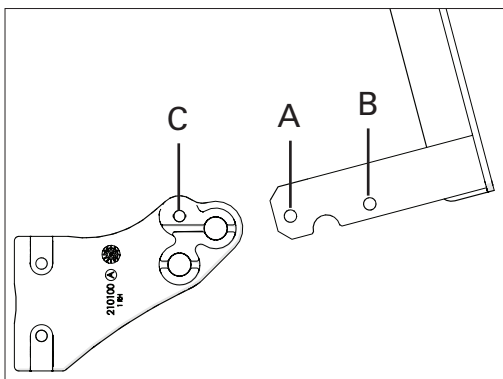

Figure 1
- (1) 1/2" COMBINATION WRENCH OR SOCKET
- Align hole of skid runner (hole marked "A" for 10-inch wheels or "B" for 8-inch wheels) with hole in wheel bracket marked "C" (Figure 1).